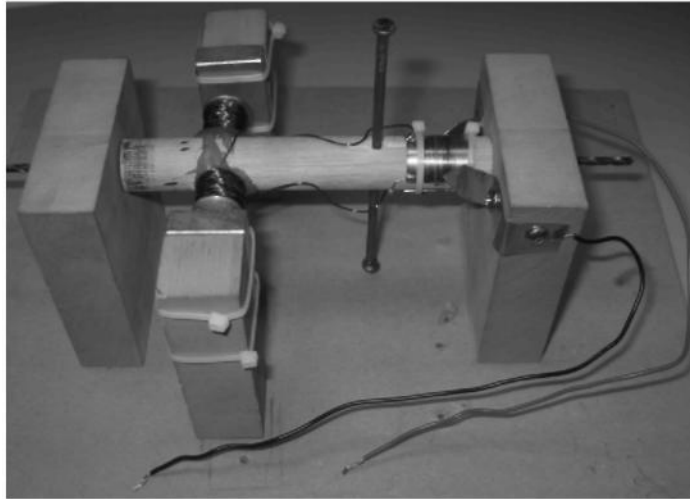

FIGURE 4.31
The DC permanent magnet (PM) brush motor is probably the easiest motor to understand. It consists of just a few parts: an armature, some magnets, a case, wires, and brushes. I remember as a kid making a motor out of a couple of nails, a dowel, and some wire. It looked something like what's in Figure 4.31.